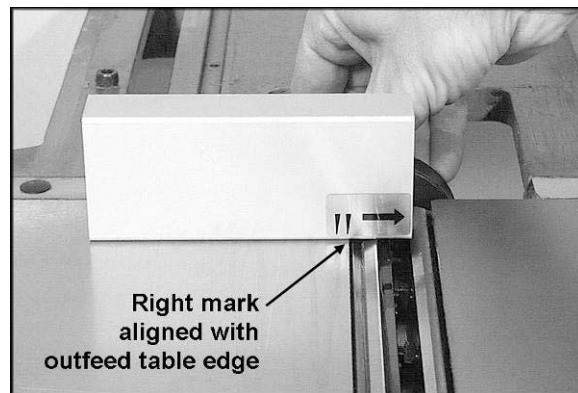

Figure 29 (straight cutterhead)
7. An aluminum knife setting gauge, shown in Figure 29, is provided with the jointer. If you require very fine tolerances when setting the knives, a knife setting gauge with a dial readout can be purchased (see "Optional Accessories" on page 32). The provided aluminum gauge should, however, be accurate enough for most woodworking needs.
8. Place the provided knife setting gauge at the back of the outfeed table (toward the fence support side) and extending over the cutterhead as shown in Figure 29. Place the gauge so that the right mark lines up with the edge of the outfeed table, as shown.